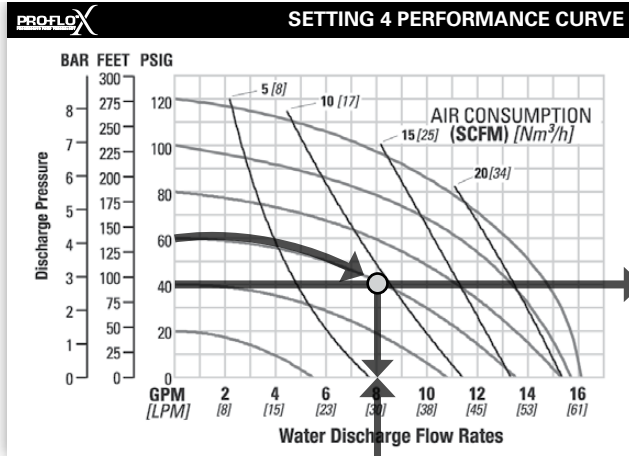

Figure 1
**FIGURE 1** The air valve directs pressurized air to the back side of diaphragm A. The compressed air is applied directly to the liquid column separated by elastomeric diaphragms. The diaphragm acts as a separation membrane between the compressed air and liquid, balancing the load removes mechanical stress from the diaphragm. The compressed air moves the diaphragm away from the center of the pump. The opposite diaphragm is pulled in by the shaft connected to the pressurized diaphragm. Diaphragm B is on its suction stroke; air behind the diaphragm has been forced out to atmosphere through the exhaust port of the pump. The movement of diaphragm B toward the center of the pump creates a vacuum within chamber B. Atmospheric pressure forces fluid into the inlet manifold forcing the inlet valve ball off its seat. Liquid is free to move past the inlet valve ball and fill the liquid chamber (see shaded area).
**Step 1: Identifying performance at setting 4.** Locate the curve that represents the flow rate of the pump with 4.1 bar (60 psig) air inlet pressure. Mark the point where this curve crosses the horizontal line representing 2.8 bar (40 psig) discharge pressure (Figure 1). After locating your performance point on the flow curve, draw a vertical line downward until reaching the bottom scale on the chart. Identify the flow rate (in this case, 8.2 gpm). Observe location of performance point relative to air consumption curves and approximate air consumption value (in this case, 9.8 scfm).